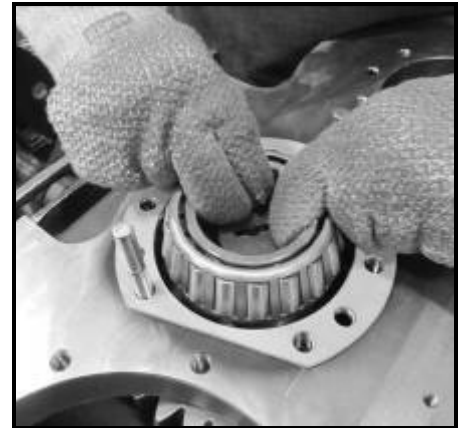

Figure 73
7. Slip the spacer washer over the intermediate shaft against the gear. Heat and install the remaining bearing cone assembly against the spacer washer. See **Figure 73**.